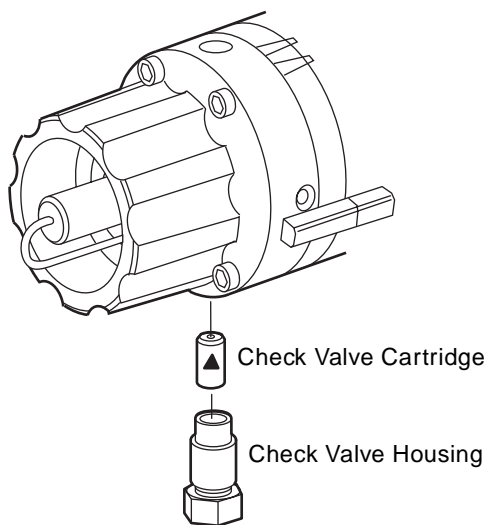

Figure 7-6 Inlet Check Valve
3. Use the 1/2-inch wrench to hold the inlet check valve housing while you disconnect the inlet check valve compression screw with the 5/16-inch wrench (Figure 7-6).
4. Use the 1/2-inch wrench to disconnect the check valve housing from the manifold (Figure 7-6).